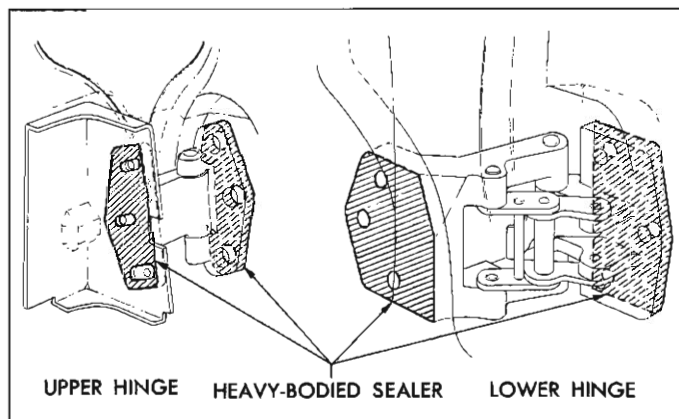

Fig. 11—Rear Door Hinge Sealing
2. Apply a coat of heavy-bodied sealer to attaching surfaces of hinge straps or corresponding surfaces of door or body (see Figure 11).